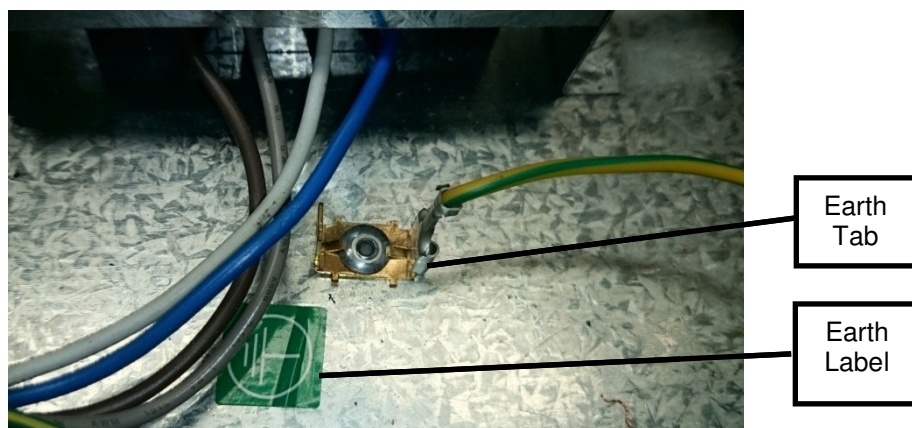

Figure 5
- 1.5 Attach the GREEN/YELLOW earth wire from the 539 Interface Module to any available earth tabs. See **Figure 5**